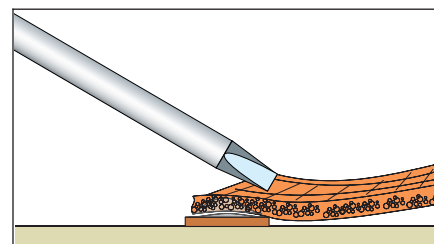

Figure 3 Place Braid & Iron on Land
6. Place prefluxed braid on the solder to be removed. Place iron tip on the braid. Ensure the braid contacts only the solder and the tip contacts only the braid to prevent damage. (See Figure 3.)